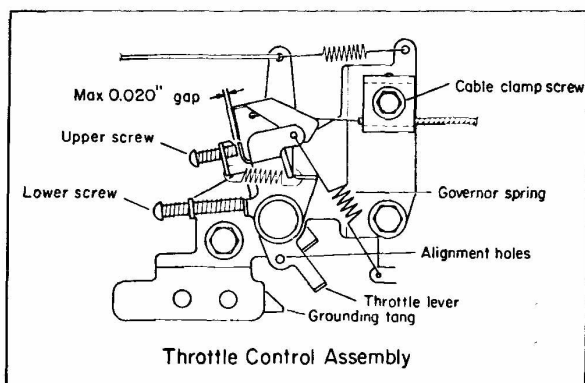

Figure 2-8
11. On BBC engines, set the throttle control on the handle in the "stop" position. Bend the grounding tang until it just contacts the throttle lever. See Fig. 2-8.